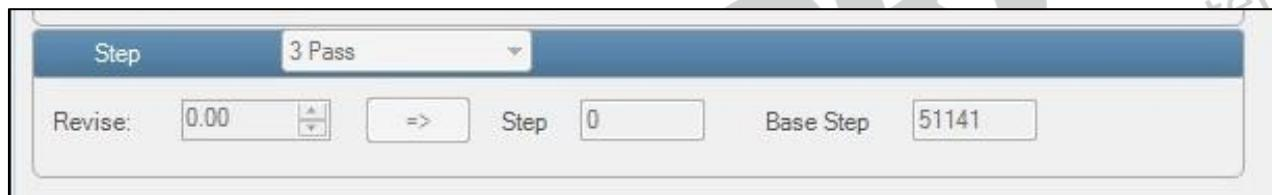

Figure 33: Step Calibration Parameters
- Step 1** Select the desired pass from the list and click on the **Print** button (Refer to Fig 33).
- Step 2** Feed the correction value in the **Revise** field (the correction value up to two decimal places) (Refer to Fig 33).